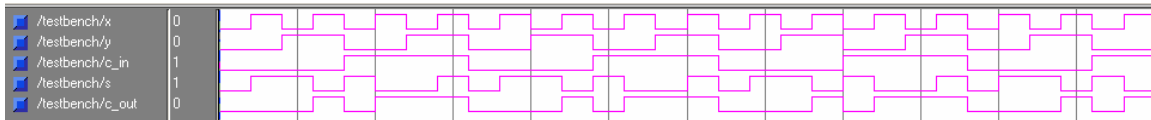

Figure 12; 1-bit wide full adder simulation.
6. Run behavioral simulation; Highlight the file full_adder_tb.vhd in the **Sources in Project** window, expand **ModelSim Simulator** and double click on **Simulate Behavioral Model** in the **Processes for Source** window. You should get a waveform similar to figure 12. Check it against the truth table for a half adder and make sure it complies.